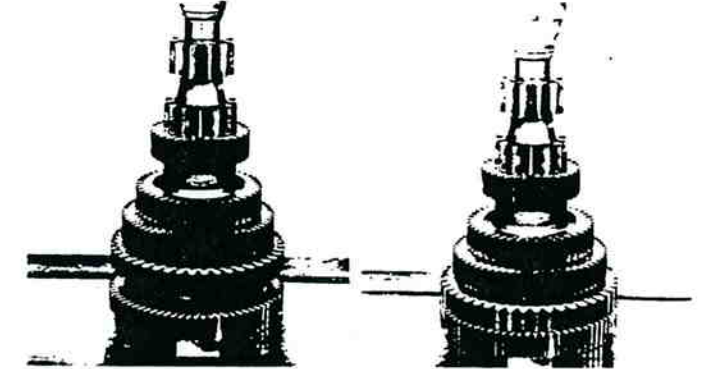

Figure 13-93. Drive Gear Installation.
8. Press the drive gear on countershaft (figure 13-93).